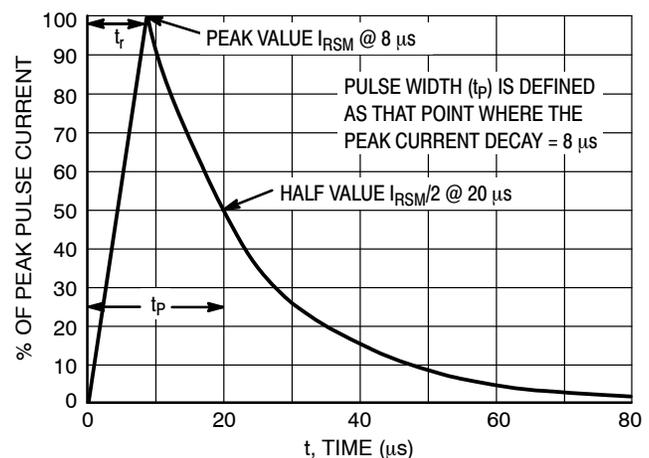

Figure 5. 8 X 20 μs Pulse Waveform
- Surge current waveforms per Figure 5.